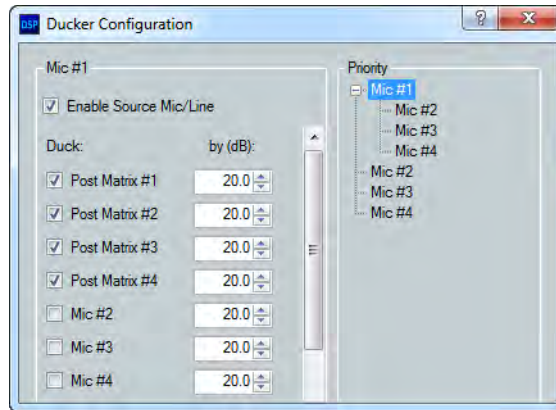

Figure 65. Set a Ducking Source
2. Open the ducker configuration box and select the desired duck targets (see figure 65). In this example post-matrix 1 through 4 are the ducking targets.
As was shown in figure 65, on the previous page, mic 1 is the first source. Since it was selected as a ducking target, mic 1 is not available as a target of mic 2.